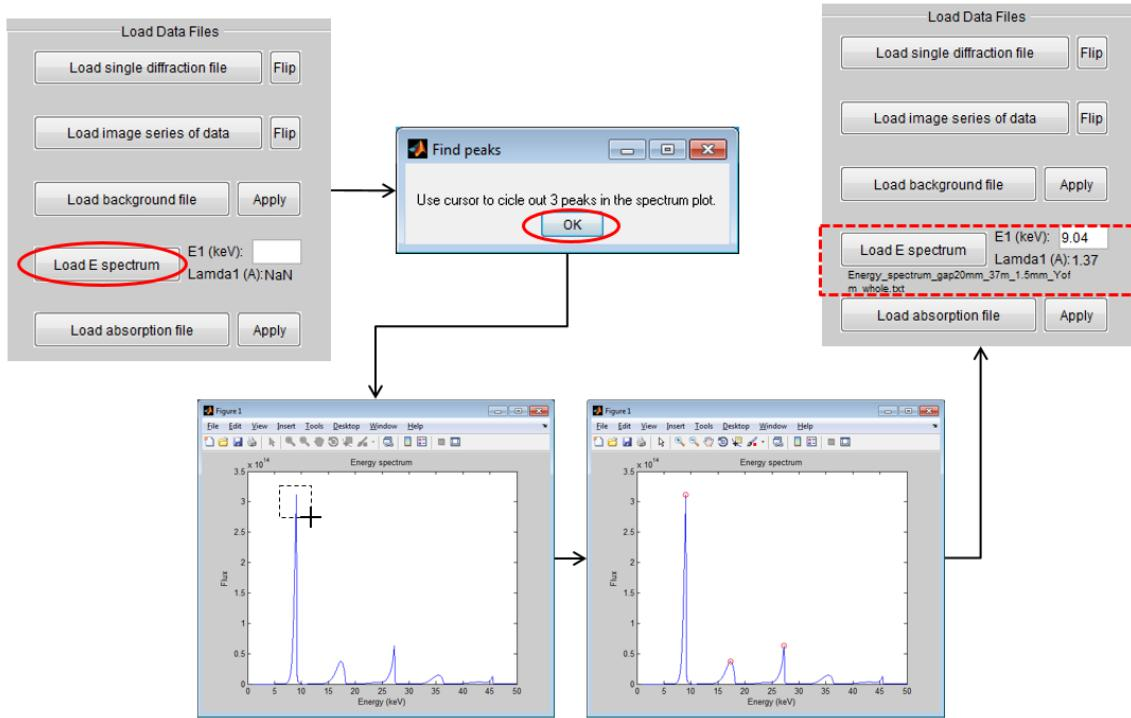

Figure 3.2: Load energy spectrum and find harmonic energies
- 8) Click “Load E spectrum” button to load the energy spectrum. These data files are normally provided to the users by the beamline. Also, users can calculate the energy spectrum using the XOP software for the given undulator type and gap. A message window will then pop up asking the user to circle out multiple peaks (“number of harmonic” that the user filled in) in the spectrum. Click “OK” and the energy spectrum plot will show up. Use mouse to circle the interested and the program will automatically find the peak positions and marked them in the plot. The energy of the first selected harmonic, wavelength, and the name of the loaded file will show up in the GUI control panel, as illustrated in Fig. 3.2. Note that users don’t have to always select the 1st harmonic energy, particularly when dealing with small undulator gap and strong absorption samples.